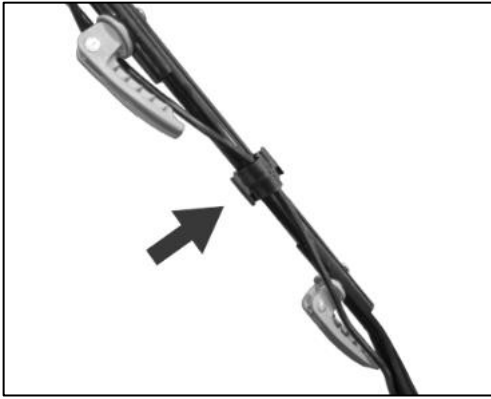

Fig.9
Use cable clip (4) to fix the cable to the handle as shown in Fig.9.